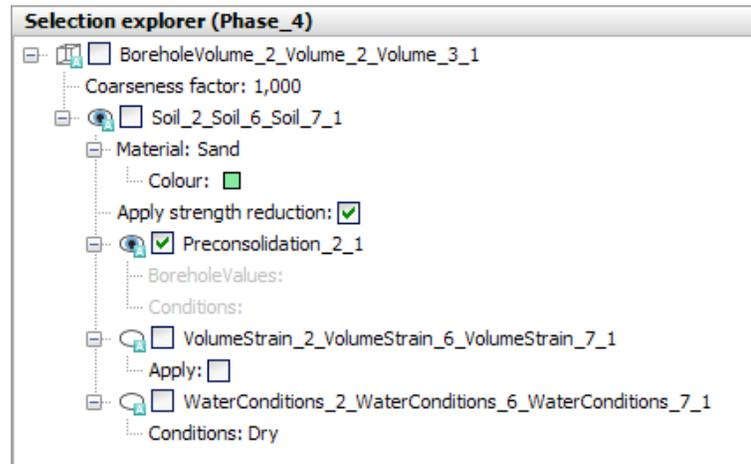

Figure 34: Water conditions in the Selection explorer
16.  In the **Selection explorer** under **WaterConditions** feature, click on the **Conditions** and select the **Dry** option from the drop-down menu as in Figure 34 (on page 54).